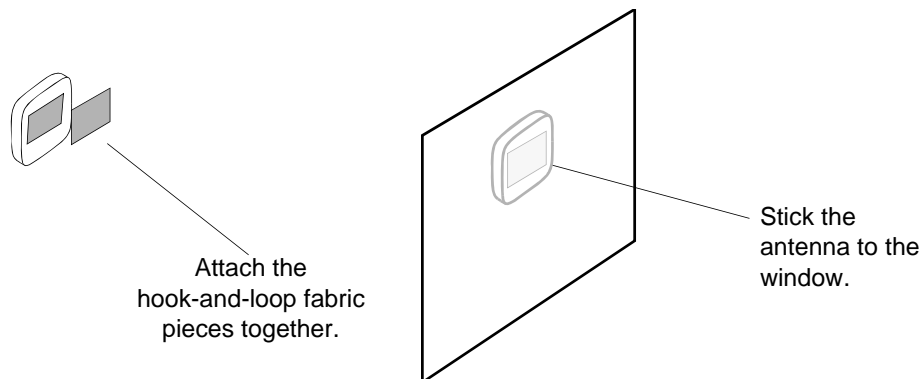

Figure 3-10. Attaching the Self-Adhesive Window Antenna to a Window
1. Peel off the backing of one of the self-adhesive hook-and-loop strips and stick the strip to the antenna (Figure 3-10).